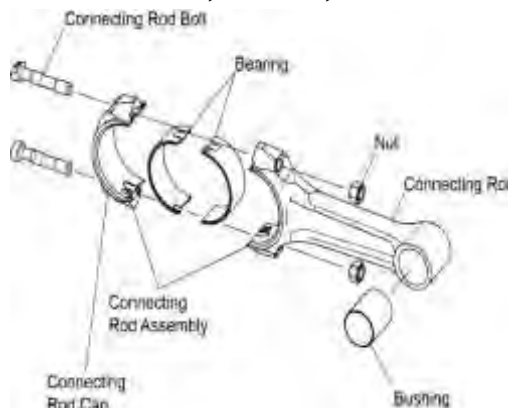

Figure 1
- A. Remove and discard, or retain for connecting rod inspection, the two nuts (Figure 1) and two bolts that attach the connecting rod cap to the connecting rod.